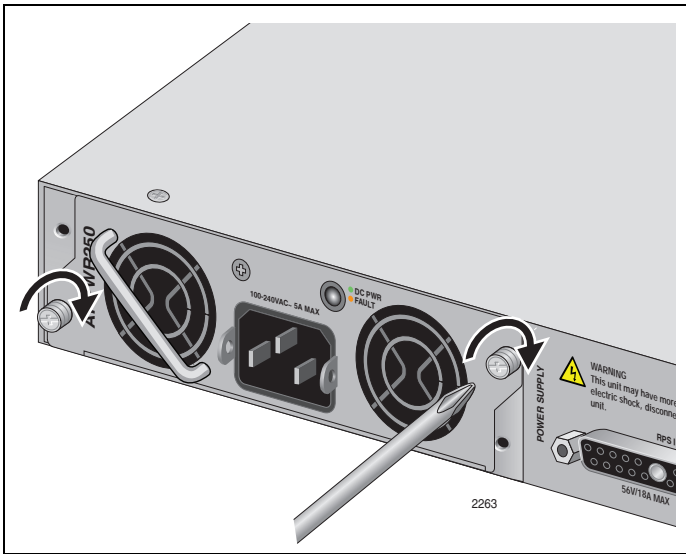
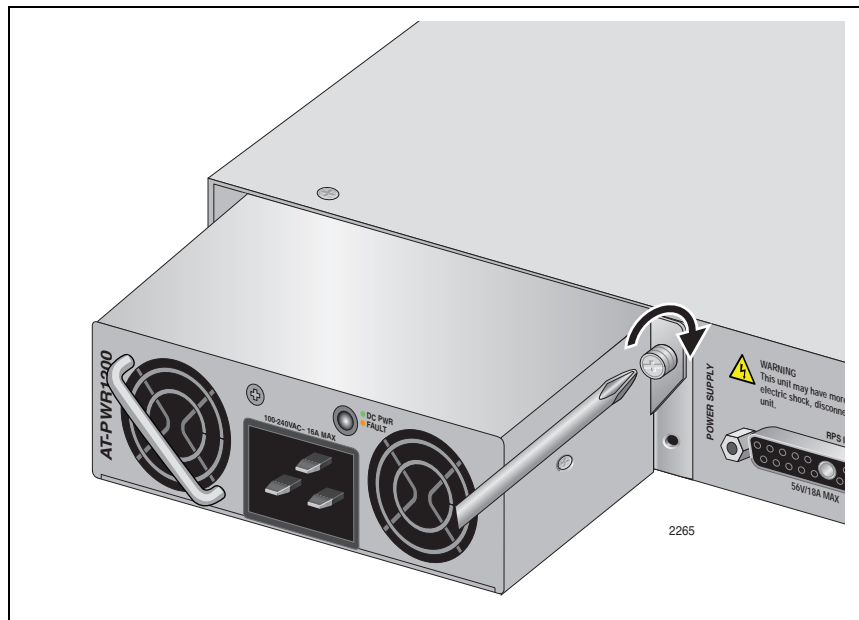

Figure 52. Securing the AT-PWR250 Power Supply Module
Figure 55. Securing the AT-PWR1200 Power Supply Module
4. Secure the power supply module to the chassis by tightening the two captive screws with a cross-head screwdriver, as shown in Figure 52 on page 86 through Figure 55 on page 87.